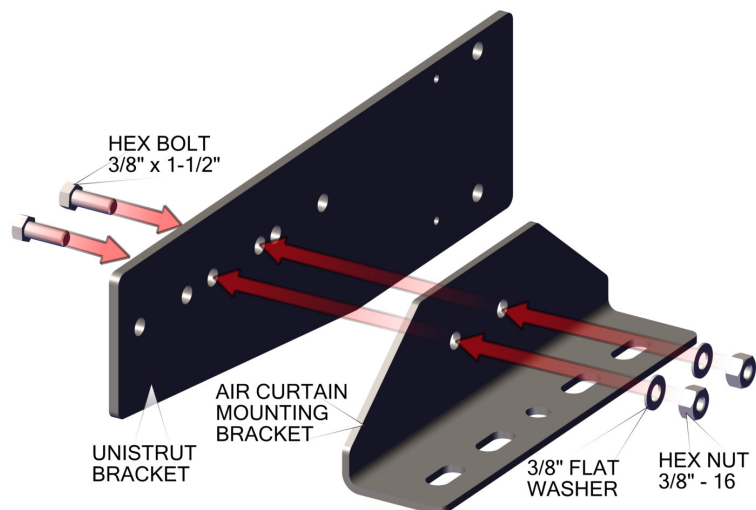

Figure 18: CHD10 Aircurtains
- Depending on the type of air curtain you have, assemble the air curtain mounting brackets to the unistrut, see Figures 18 and 20.